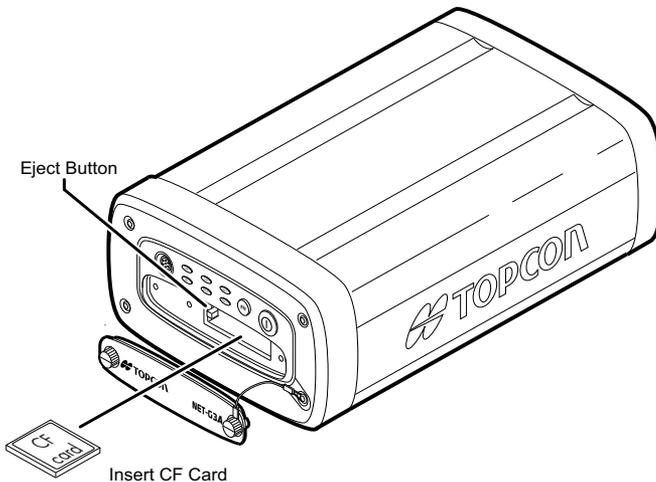

Figure 2-3. Install the CF Card
3. Carefully insert the CF card, label side up, into the CF card slot (Figure 2-3 on page 2-8).